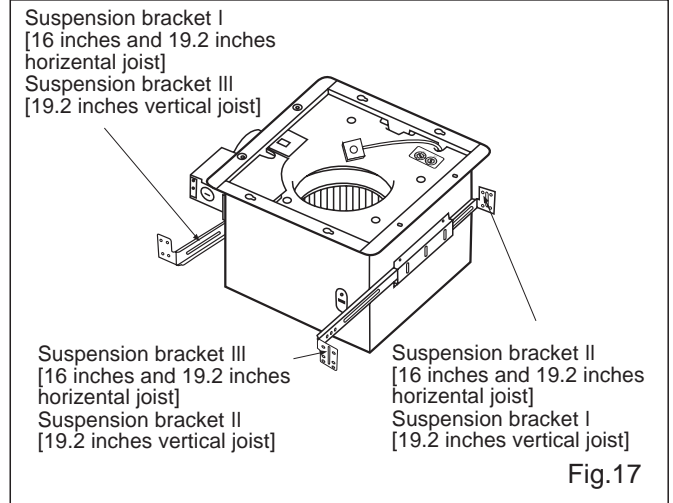

Fig.17
2. Insert the suspension bracket into the bracket cover of adaptor side and the back of the fan body. (Fig.17) (select the suspension bracket according to spacing A as show below)